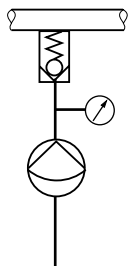

Fig. 11
- Prevent reflux into the main line. This would cause unwanted mixing in the discharge line. Fit a discharge valve to the injection point (Fig. 11).